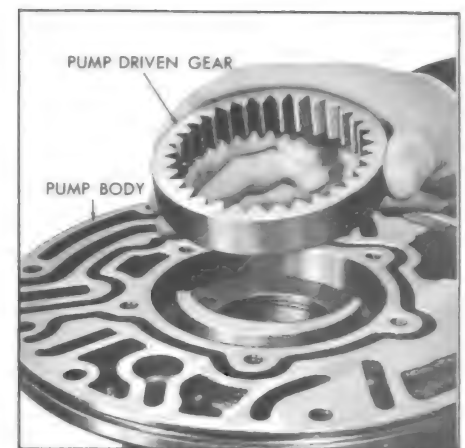

Figure 5-593
1. Install the drive and driven pump gears into the pump body with alignment marks up. See Figures 5-593 and 5-593A.